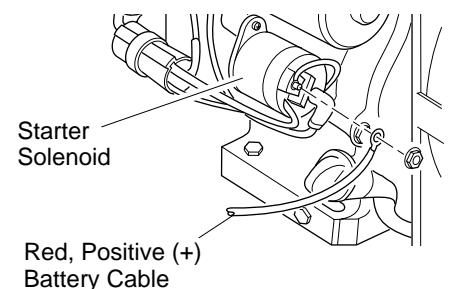

Figure 10 - Connecting Red, Positive (+) Battery Cable to Engine Starter Solenoid (Model RGH7500AIE Shown)
1. Attach the red, positive (+) battery cable to the starter solenoid on engine (see Figure 10). The starter solenoid is located directly above the starter on Model RGH11000AIE. This cable is factory installed.